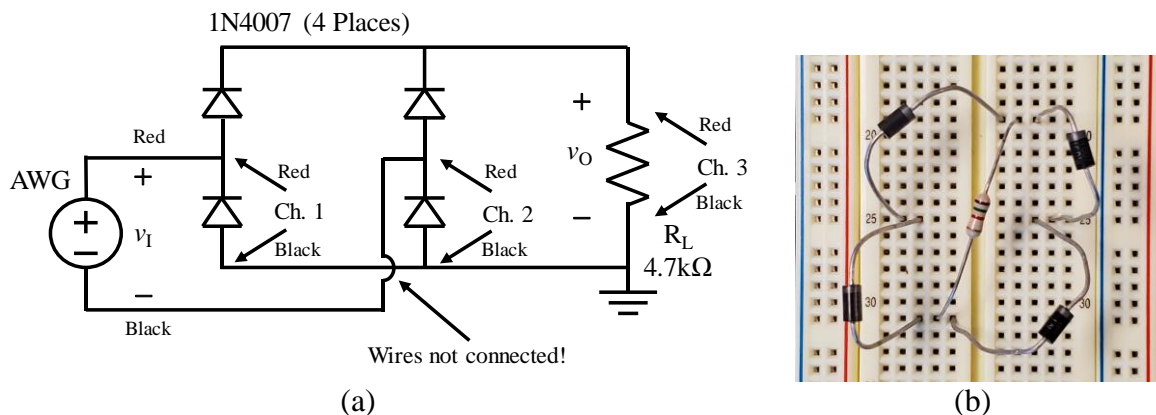

Fig. 5. Full-wave rectifier circuit (a) schematic showing oscilloscope connections and (b) suggested breadboard layout.
3. Perform measurements of the full-wave rectifier circuit shown in Fig. 5 as follows.
- a. Construct the circuit shown in Fig. 5.
- a. The full-wave rectifier in Fig. 5 is modified by connecting a $47\ \mu\text{F}$ capacitor in parallel with the load resistor.